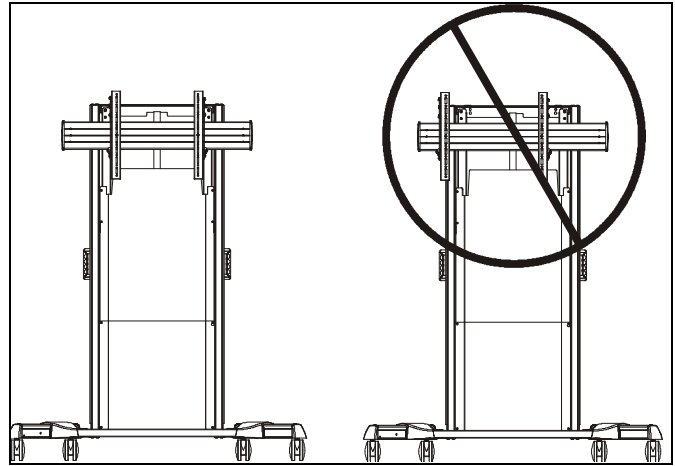

Figure 5
**WARNING:** In order to ensure an even mount and prevent cart from tipping over, uprights MUST be centered over column assembly. Do NOT install both uprights to the same side of column assembly! (See Figure 5)